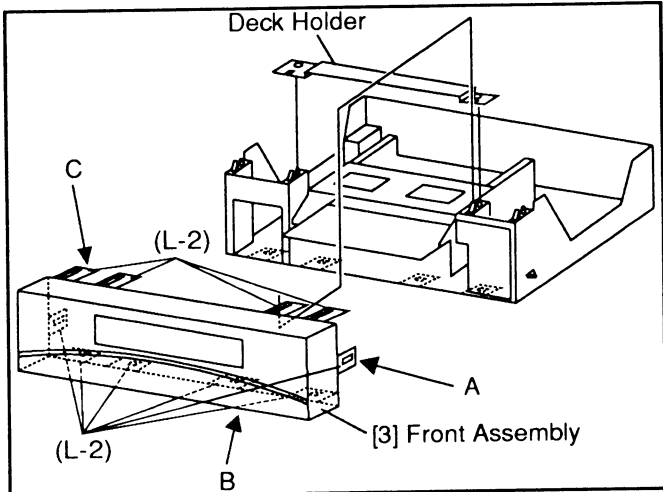
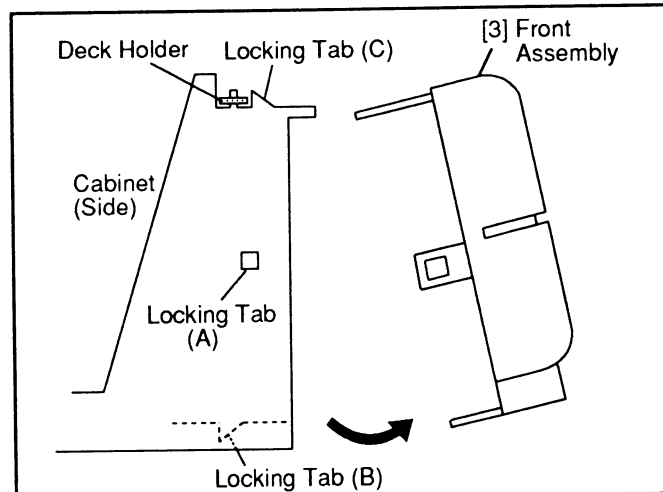

Fig. 3
Fig. 4
- 2. **CAUTION** Locking Tabs (L-2) are fragile. Be careful not to break them. Release 10 Locking Tabs (L-2), then remove the Deck Holder. (Fig. 3) When releasing (L-2), first release the tab (A) on each side of the Front Assembly, then the four tabs (B) at the bottom, and then the four tabs (C) at the top. (Fig. 3, Fig. 4)